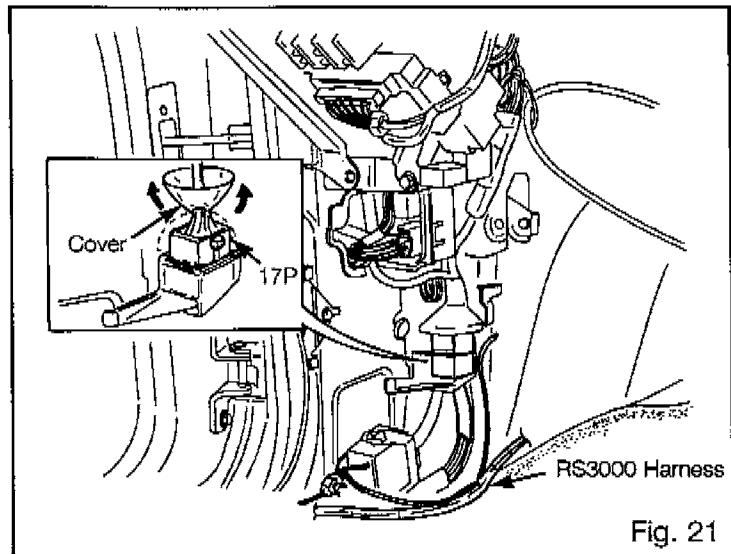

Fig. 21
- (3) A) Locate the 17P connectors above the 26P connectors. Fig 21
- B) Peel up the cover, and disconnect the female (terminals) connector. Fig 21